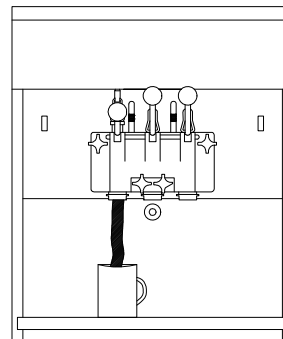

Figure 10-4 Pure mix
2. While filling the mix hopper with one gallon of mix open the plunger by pulling the dispense handle down and allow mix to push out remaining sanitizer. When pure mix is flowing from the dispense head close the dispense handle (figure 10-4).
1. Place a bucket under the dispense head. Remove the actuator rod from the spigot. Leave spigot open. (figure 10-4)
2. Fill mix hopper with one gallon of mix and allow mix to push out remaining sanitizer. When pure mix is flowing from the dispense head close the dispense handle (figure 10-4). Reinstall the actuator rod.